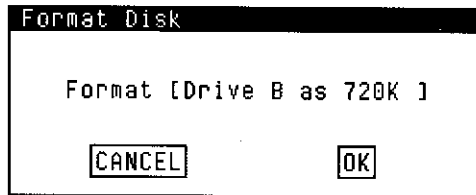

Figure 8-8. Format Disk Window
2. Click on <Format>. The Format Disk window, Figure 8-8, is displayed.